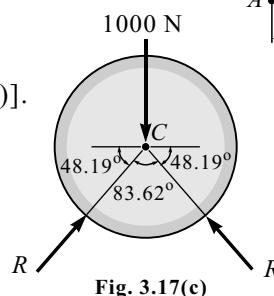

Fig. 3.17(c)
- (iv) Draw the FBD of the lower cylinder A as shown in Fig. 3.17(d).